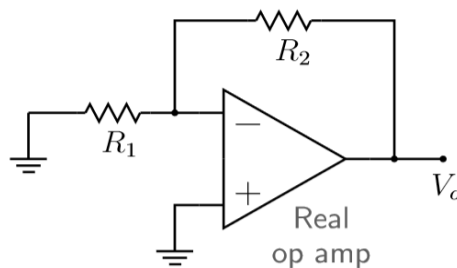

Figure 1: Offset voltage measurement
1. Wire up the circuit as shown in Figure 1. Let $R_1=R_2=10k\Omega$.